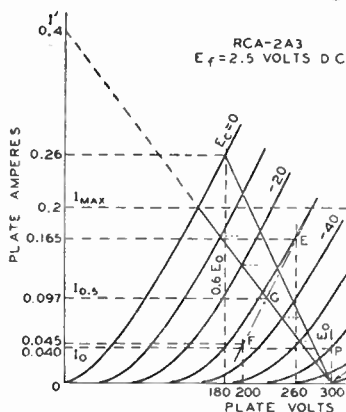
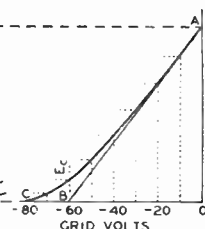

Fig. 23
Fig. 24
In class AB₁ push-pull amplifier service using triodes, the operating conditions may be determined graphically by means of the plate family if E_o , the desired operating plate voltage, is given. In this service, the dynamic load line does not pass through the operating point P as in the case of the single-tube amplifier, but through the point D in Fig. 23. Its position is not affected by the operating grid bias provided the plate-to-plate load resistance remains constant. Under these conditions, grid bias has only a small effect on the power output. Grid bias cannot be neglected, however, since it is used to find the zero-signal plate current and, from it, the zero-signal plate dissipation. Since the grid bias is higher in class AB₁ than in class A service for the same plate voltage, this "overbiased" condition permits the use of a higher signal voltage without grid current being drawn and, therefore, higher power output is obtained than in class A service.
In general, for any load line through point D, Fig. 23, the plate-to-plate load resistance in ohms of a push-pull amplifier is $R_{pp} = 4E_o/I'$, where I' is the plate current value in amperes at which the load line as projected intersects the plate current axis and E_o is in volts. This is another form of the formula, given under push-pull class A amplifiers, $R_{pp} = 4(E_o - 0.6E_o)/I_{max}$, but is more general. Power output = $(I_{max}/\sqrt{2})^2 \times R_{pp}/4$, where I_{max} is the peak plate current at zero grid volts for the load chosen. This formula simplified is $(I_{max})^2 \times R_{pp}/8$. The maximum-signal average plate current is $2I_{max}/\pi$ or $0.636 I_{max}$; the maximum-signal average power input is $0.636 I_{max} E_o$.
Example: Fig. 23 illustrates the application of the method to a pair of 2A3's operated at $E_o = 300$ volts. The tubes have a plate-dissipation rating each of 15 watts. The method is to erect a vertical line at $0.6E_o$, or at 180 volts, which intersects the $E_c = 0$ curve at the point $I_{\max} = 0.26$ ampere. Using the simplified formulas, we obtain
The operating bias and the zero-signal plate current may now be found by use of a curve which is derived from the plate family and the load line. Fig. 24 is a curve of instantaneous values of plate current and dc grid-bias voltages taken from Fig. 23. Values of grid bias are read from each of the grid-bias curves of Fig. 23 along the load line and are transferred to Fig. 24 to produce the curved line from A to C. A tangent to this curve, starting at A, is drawn to intersect the grid-voltage abscissa. The point of intersection, B, is the operating grid bias for fixed-bias operation. In the example, the bias is -60 volts. Refer back to the plate family at the operating conditions of plate volts = 300 and grid bias = -60 volts; the zero-signal plate current per tube is seen to be 0.04 ampere. This procedure locates the operating point for each tube at P. The plate current must be doubled, of course, to obtain the zero-signal plate current for both tubes. Under maximum-signal conditions, the signal voltage swings from zero-signal bias voltage to zero bias for each tube on alternate half cycles. Hence, in the example, the peak of signal voltage per tube is 60 volts, or the grid-to-grid value is 120 volts.
As in the case of the push-pull class A amplifier, the second-harmonic distortion in a class AB₁ amplifier using triodes is very small and is largely cancelled by virtue of the push-pull connection. Third-harmonic distortion, however, which may be larger than permissible, can be found by means of composite characteristic curves. A complete family of curves can be plotted, but for the present purpose only the one corresponding to a grid bias of one-half the peak grid-voltage swing is needed. In the example, the peak grid voltage per tube is 60 volts, and the half value is 30 volts. The composite curve, since it is nearly a straight line, can be constructed with only two points (see Fig. 23). These two points are obtained from deviations above and below the operating grid and plate voltages. In order to find the curve for a bias of -30 volts, we have assumed a deviation of 30 volts from the operating grid voltage of -60 volts. Next assume a deviation from the operating plate voltage of, say, 40 volts. Then at $300 - 40 = 260$ volts, erect a vertical line to intersect the $(-60) - (-30) = -30$ -volt bias curve and read the plate current at this intersection which is 0.167 ampere; likewise, at the intersection of a vertical line at $300 + 40 = 340$ volts and the $(-60) + (-30) = -90$ -volt bias curve, read the plate current. In this example, the plate current is estimated to be 0.002 ampere. The difference of 0.165 ampere between these two currents determines the point E on the $300 - 40 = 260$ -volt vertical. Similarly, another point F on the same composite curve is found by assuming the same grid-bias deviation but a larger plate-voltage deviation, say, 100 volts. We now have points at 260 volts and 0.165 ampere (E), and at 200 volts and 0.45 ampere (F). A straight line through these points is the composite curve for a bias of -30 volts, shown as a long-short dash line in Fig. 23. At the intersection of the composite curve and the load line, G, the instantaneous composite plate current at the point of one-half the peak signal swing is determined. This current value, designated I_{h3} and the peak plate current, I_{max} , are used in the following formula to find peak value of the third-harmonic component of the plate current.